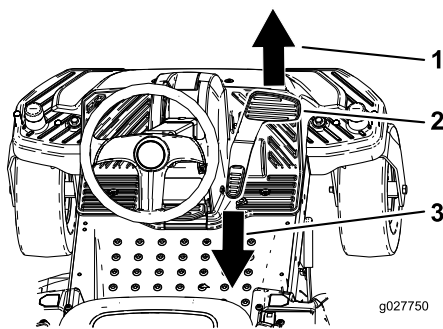

Figure 13
3. Place your foot onto the traction-control pedal and slowly press the top of the pedal to go forward, or press on the bottom of the pedal to move backward (Figure 13).